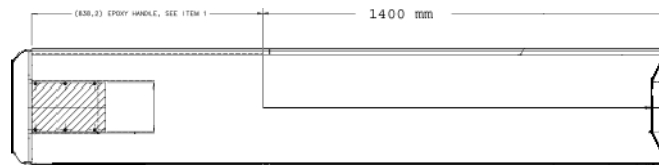

Figure 1-26 Use bolts to adjust cradle
- 2.) Adjust cradle as needed, using the six bolts located on the back of the cradle (Figure 1-26).